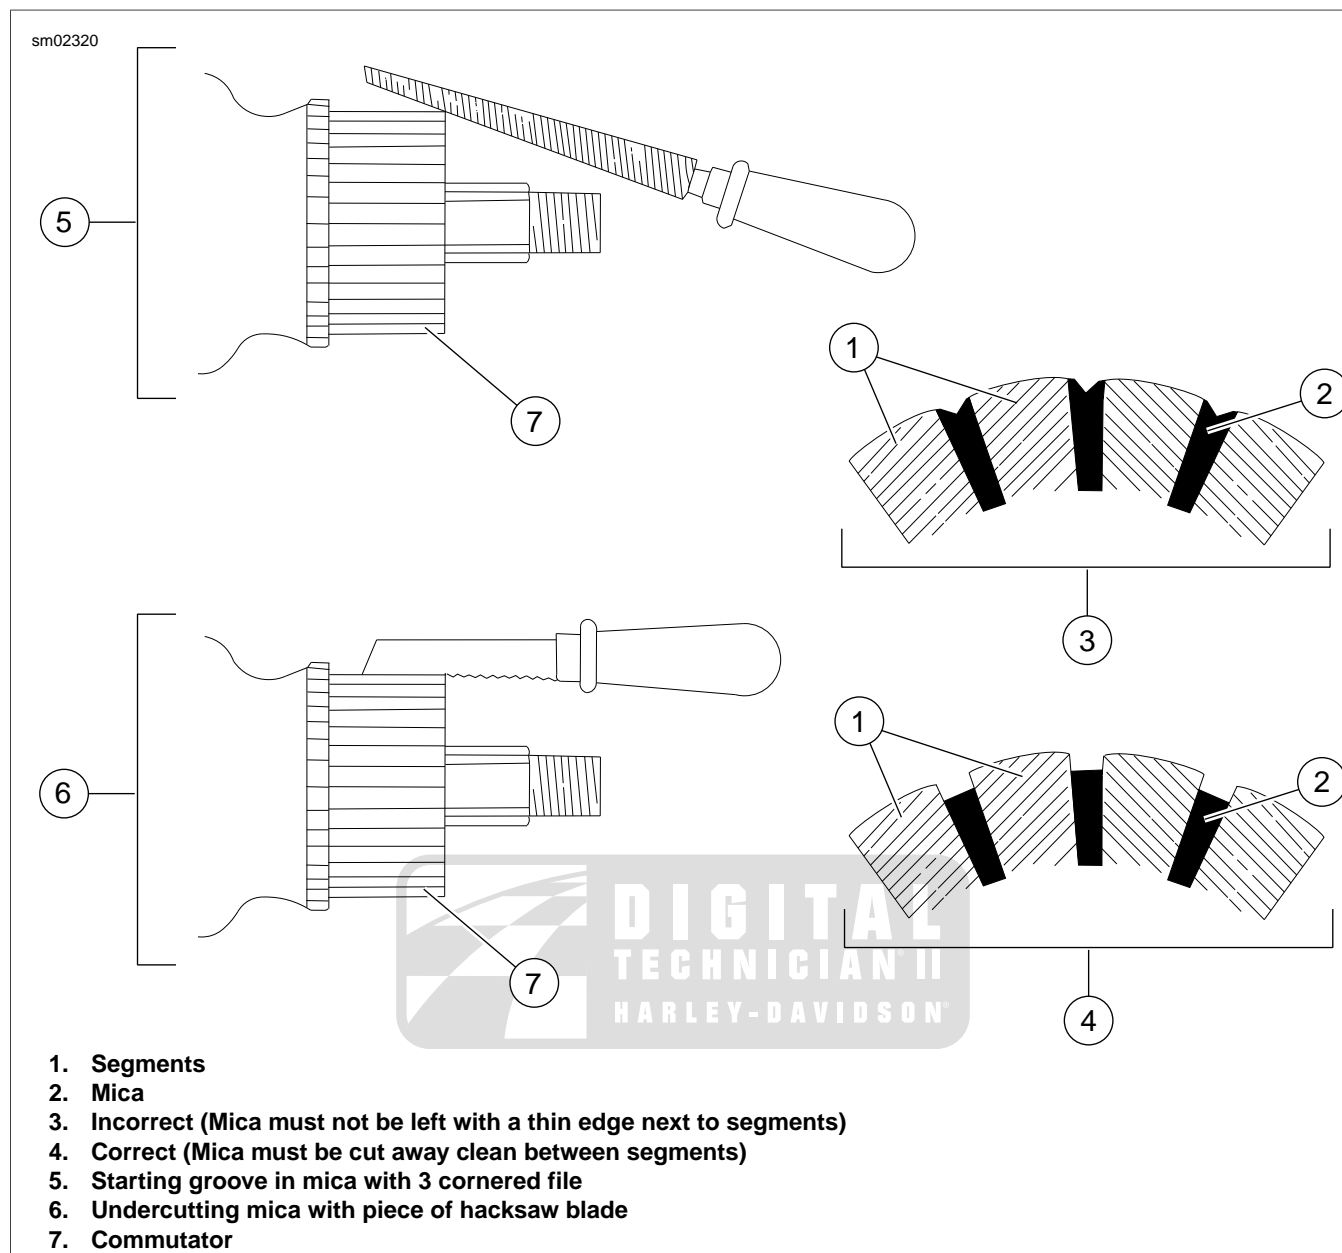

Figure 3-9. Undercutting Mica Separators
- See Figure 3-9. If an undercutting machine is not available, undercutting can be done satisfactorily using a thin hacksaw blade. After undercutting, lightly sand the armature with crocus cloth to remove any burrs.